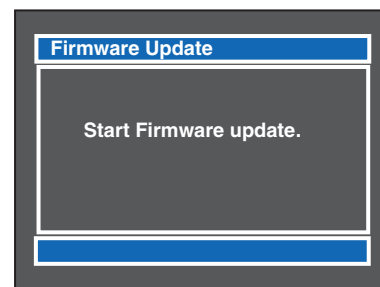

Fig. 4-6-2 Updating Start Screen
- 5) After approx. 20 seconds, the updating start screen (Fig. 4-6-2) will appear, and the firmware programs will be automatically updated thereafter.